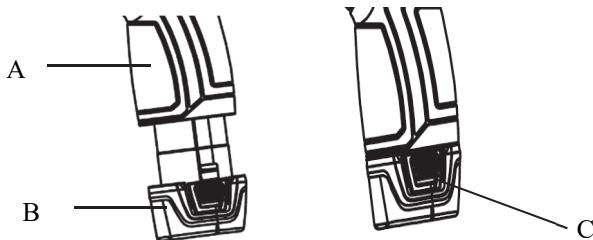

Fig. 2
TO REMOVE BATTERY PACK: Depress the battery release button (C) and pull battery pack (B) out of tool (A). (see Fig. 2)
TO INSTALL BATTERY PACK: Push battery pack (B) onto tool until it locks in place. (see Fig. 2)